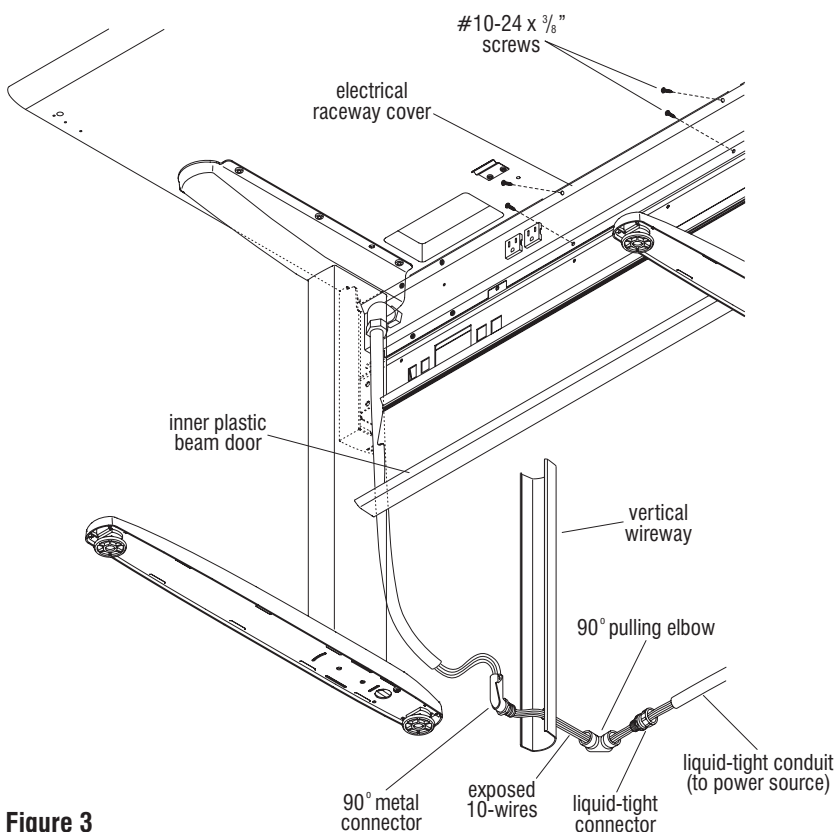

Figure 3
2. Install the electrical raceway cover to the inside of beam as illustrated with #10-24 x $\frac{3}{8}$ " screws (Figure 3).
4. Feed the flexible conduit and source wires down the D-shaped hole in the data trough. Route the wires through the 90° metal connector, vertical power wireway, 90° pulling elbow and liquid-tight connector. Fasten components together. Cut liquid-tight conduit to desired length. Feed wires through the liquid-tight conduit and attach the conduit to the connector on the front of the wireway (Figure 3).
5. Re-install the vertical power wireway to the C-leg by sliding it up into the D-shaped opening in the data trough, then down into the D-shaped opening in the foot. Press the top of the vertical wireway against the foot until it snaps into position (Figure 3).